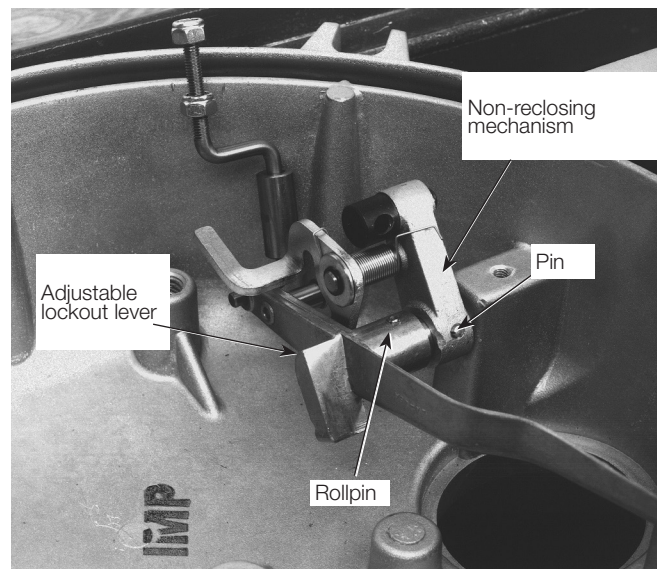

Figure 18. Lifting out adjustable lever
9. Drive out rollpin and slip off adjustable lockout lever; drive out pin and slide off non-reclosing mechanism, see Figure 18.
2. Slide non-reclosing mechanism into position and secure with pin; slide adjustable lockout lever into position and secure with rollpin, see Figure 18.